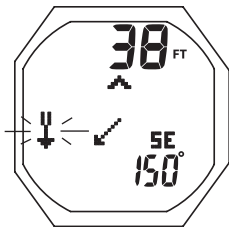

Fig. 156 - REF AUTO HOME
- A (2 sec) - accesses Auto Home Reference Mode which changes and flashes the Mode icon (Fig. 156), then -